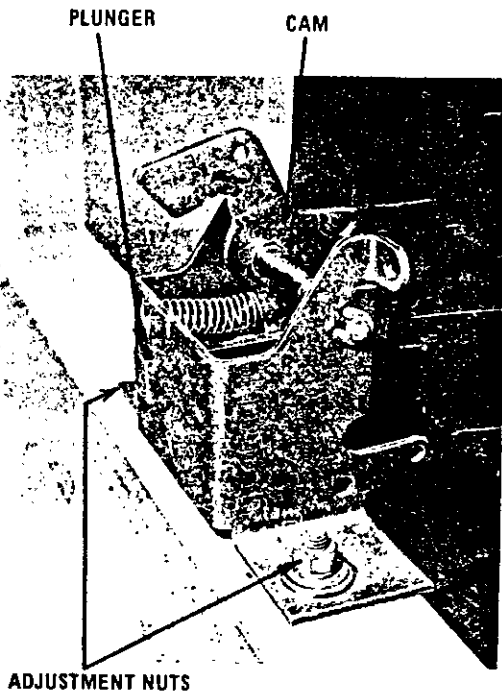

Fig. 27 - Anti-racking interlock.
1. Loosen the two mounting nuts. (See Fig. 27.)